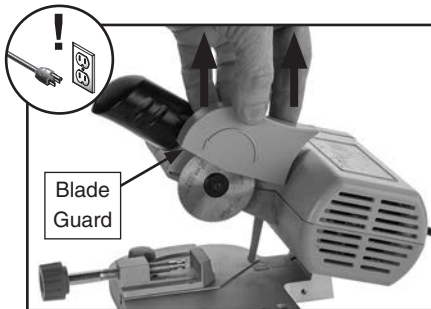

Figure 5. Removing blade guard.
2. Pull blade guard straight up to remove it (see **Figure 5**).